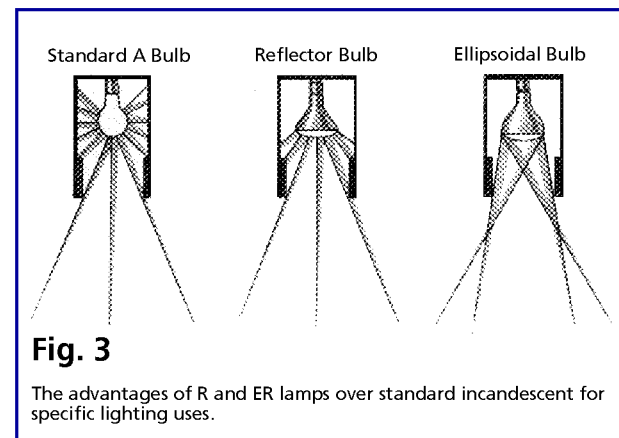

Fig. 3
▶ **Funnel Shaped Reflector (R) Bulbs** deliver the same amount of light but use less energy (watts) than standard A light bulbs in direction fixtures. They concentrate a beam of light so it can be directed more effectively. Reflector bulbs direct about 85 percent of the light they produce to where you aim them. Use them in directional reading lights or in track fixtures to focus a defined beam on a nearby work of art. Mini-spot R bulbs often are used in recessed-eyeball and track-light fixtures, as well as some portable lamps. Flood R bulbs produce a wide beam of light to illuminate a wall display.
▶ **Ellipsoidal reflector (ER) bulbs** have a silvered backing that focuses light two inches ahead of the bulb, then spreads the light outward. This design prevents light from becoming trapped inside the fixture. For this reason, a 75 watt ER bulb will deliver the same output as a 150 watt R or 200 watt A bulb.
▶ **Parabolic aluminized reflector or PAR bulbs** were originally designed to withstand outdoor weather conditions. PAR bulbs are also used indoors because of their variety of beam widths. They produce well-defined, focused beams of light that vary in width, depending on the bulb you select. All R, ER, and PAR bulbs require heat-resistant sockets (**Fig. 3**).